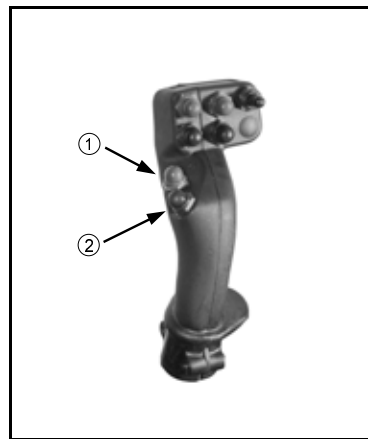

FIG 5.26
To raise and lower the transom/boom assembly, depress the “GRAY” (UP) or the “RED” (DOWN) buttons on the hydrostatic drive handle (fig. 5.26, item 1 & 2). While depressed, either button activates the transom lift cylinders (fig. 5.25).